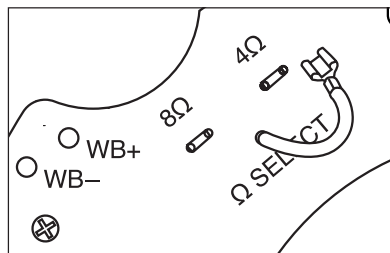

Figure 15 Setting the Impedance Jumper.
2. Check the position of the Impedance Jumper on the crossover PC board. Choose the 4 ohm position if you are using an amplifier capable of drawing a 4 ohm load and you have only one pair of speakers connected. Otherwise, use the 8 ohm position (**See Figure 15**).